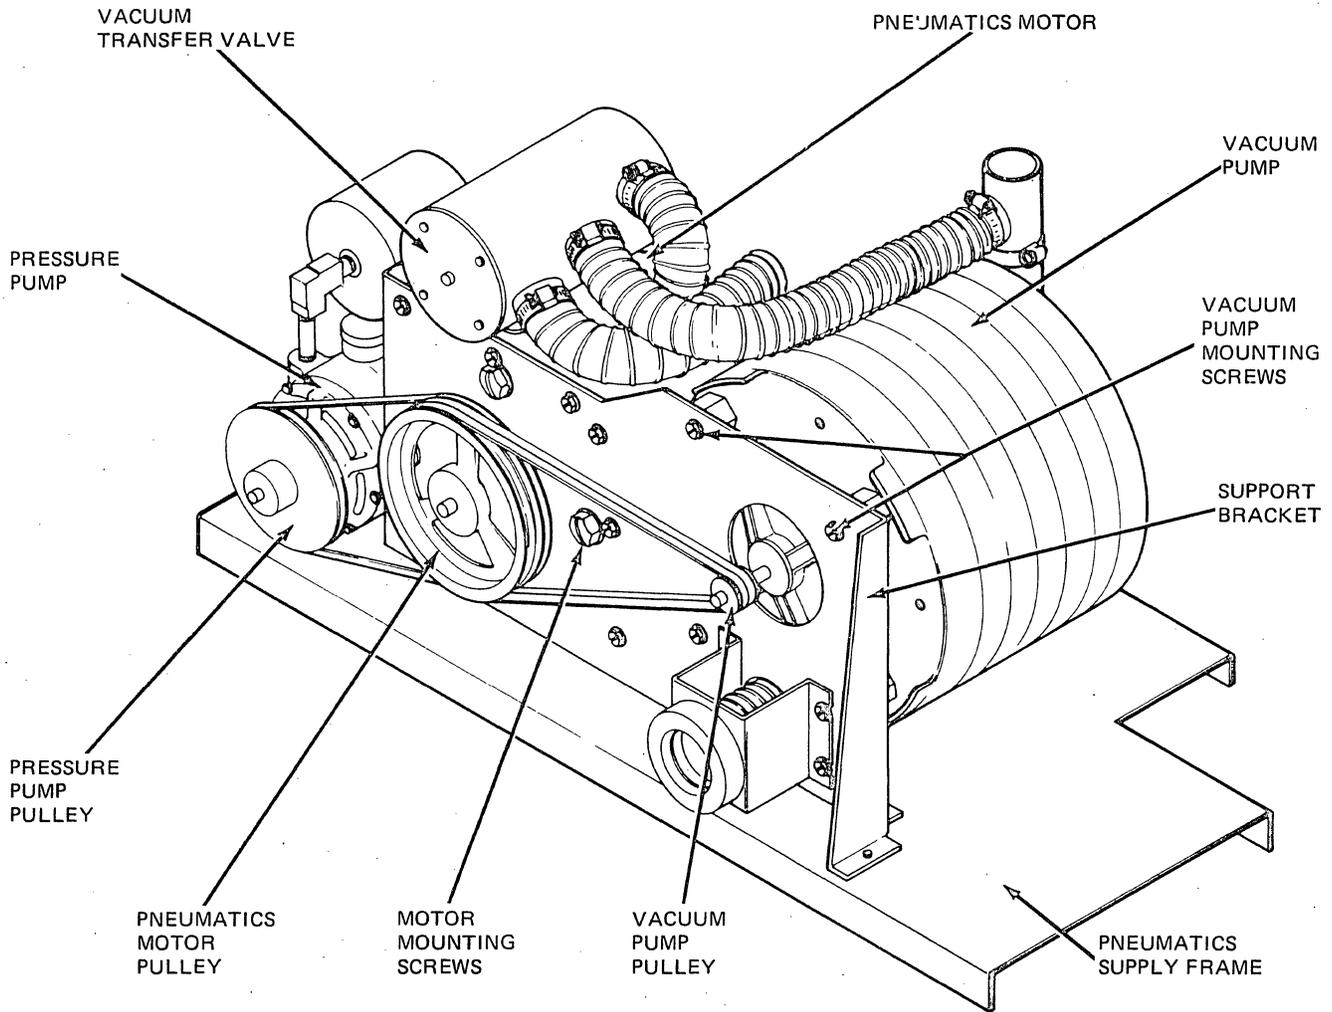

Figure 4-33. Pneumatic Supply Assembly
1. Loosen the pressure pump nuts (4) and the vacuum pump mounting screws (4), slide the pumps toward the motor and remove the belts (see Figure 4-33).
2. Loosen the set screws (2) on the pneumatics motor triple-grooved pulley and remove the pulley, using a wheel puller if necessary.
3. Disconnect the motor mounting screws (4) and lift the pneumatics motor out of the tape unit.
1. Loosen the vacuum pump mounting screws (4), slide it toward the pneumatics motor and remove the two belts (see Figure 4-33).
2. Loosen the set screws (2) on the vacuum pump double pulley and remove the pulley.
4. Remove the mounting screws (4) and lift the vacuum pump out of the tape unit.